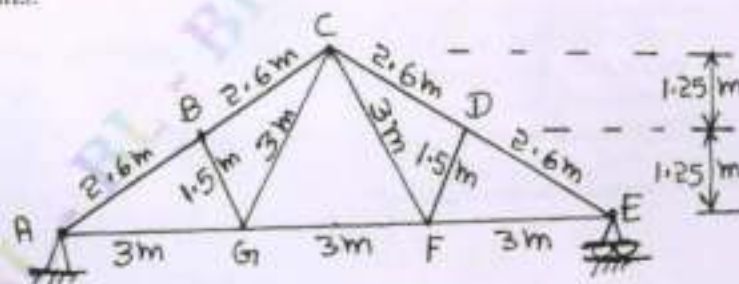

Fig.Q.3
- 3 Design the top chord, bottom chord, main sling member and support joint of a roof truss with its geometry as shown in Fig.Q.3. The analyzed forces in various members due to dead load, live load and wind load is furnished in Table Q.3. Determine the maximum design forces in the members due to various combination of loads with partial safety factors as per IS-800. Use 18mm diameter bolts of grade 4.6 for all the connections. The cross section dimension of the supporting reinforced concrete columns at the ends are $230\text{mm} \times 300\text{mm}$ with 300mm edge placed parallel to plane of the truss. The design must comprise of all the necessary checks and write a neat sketch of design details. M20 grade concrete is used in the supporting columns.